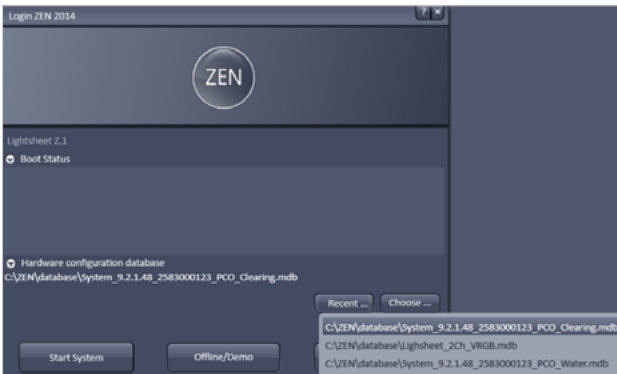

Figure 3 Start-up window, choosing database for Clearing
6. Open the **Boot Status** and **Hardware configuration database** option in the start-up window, Fig.3.